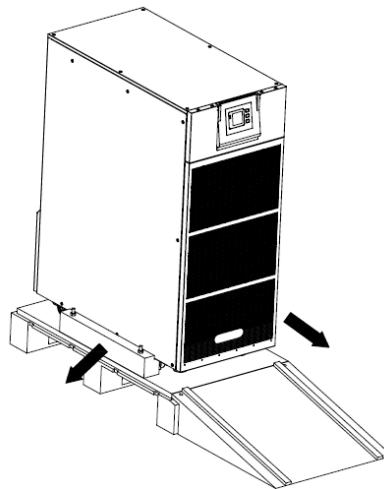

Fig. 1-3 Removing the original packaging
7. Remove the front panel and rear panel to remove the L-shaped bracket and the plates at the left and right side of the UPS that secures the cabinet and the pallet, and secure the sliding (Fig. 1-3).